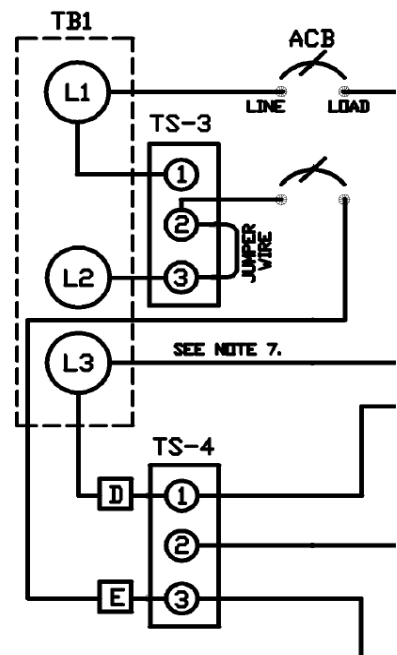

Figure 8 - Input Terminals Connection (Schematic – 240VAC input shown)
3. As illustrated in Figure 8, connect wire marked **F** to terminal **1** and wire marked **G** to terminal **2**.